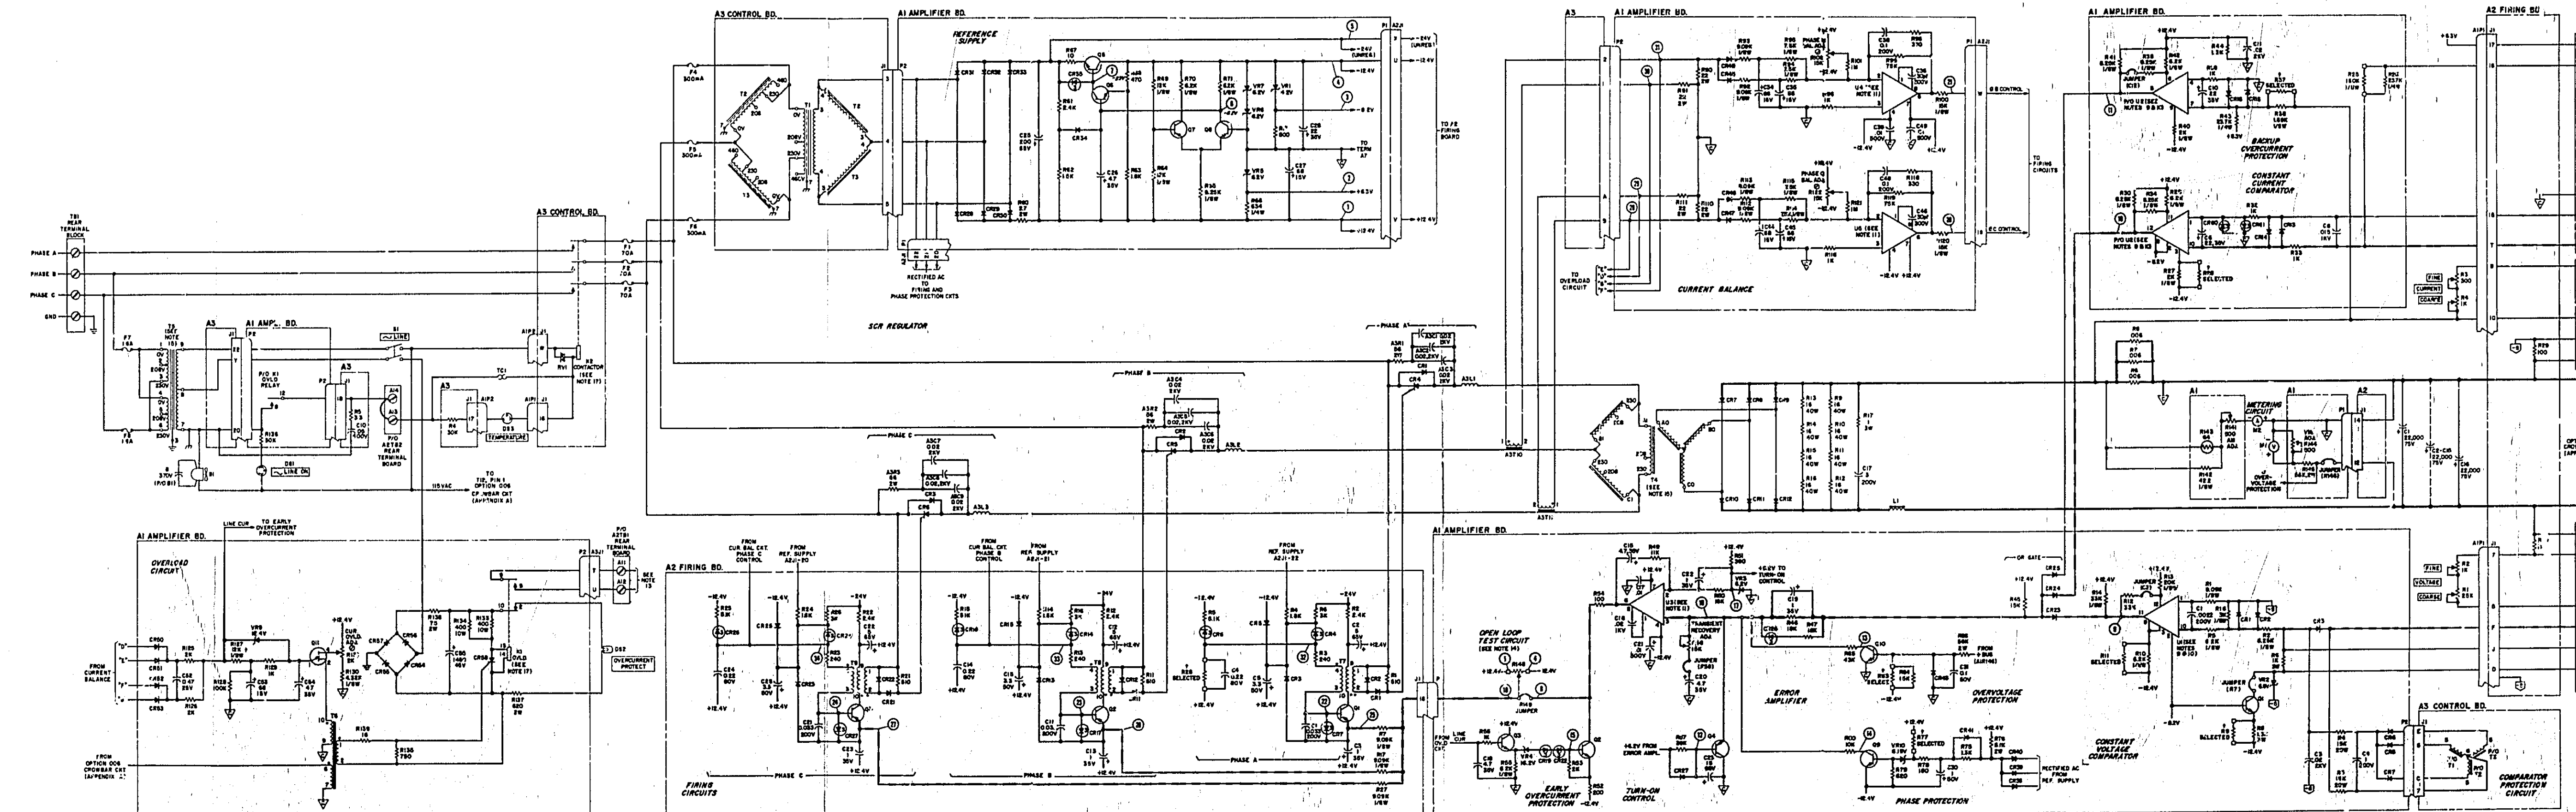

Figure 7-7. Model 6472C, Schematic Diagram
c. Schematic diagram (Figure 7-7), illustrating the circuitry for the entire power supply. Voltages are given adjacent to test points, which are identified by encircled numbers on the schematic.